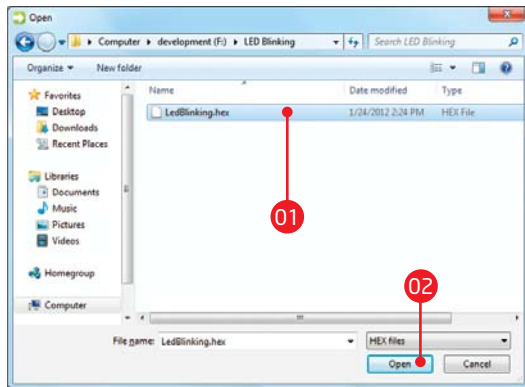

Figure 2-6: Locating and selecting .hex file
- 01** Click the **Browse for HEX** button and from a pop-up window (Figure 2-6) choose a .HEX file to be uploaded to MCU memory